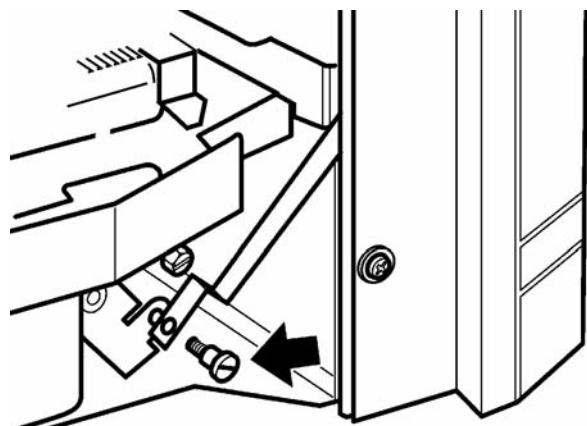

Figure 33. Control and pivot bracket
4. Align the hole near the bottom of the control linking bar with that in the control pivot bracket. Join them with the knurled shouldered screw (See figure 33). Make sure that the isolating valve is closed. Slide the control button fully from top to bottom and back to make sure that the slide and pivot mechanisms move smoothly. Note that some resistance should be felt when the slide button reaches the "burner fully on" position.